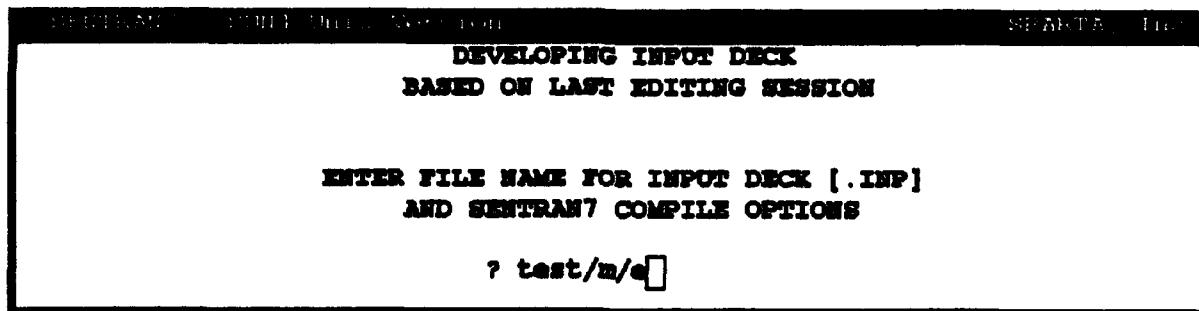

Figure 56. Example of the Prompt Given to Enter the Name of Input File and the Compiler Options
- 18) The program will now prompt you for the name of the input file (*.INP) to create, as shown in Figure 56. In response to the prompt for an input file name and compile options, type 'test /m/e', meaning "compile a LOWTRAN7/MODTRAN input file named TEST.INP in MESH form with ERROR logging and automatically generate a MTH file named TEST.MTH". Recall that the MESH (/m) option generates all possible combinations of all perturbed input parameters and the ERROR (/e) option causes a list of active absorbers and their spectral range of activity to be written to a file called SEN.ERR, along with any compile time errors.